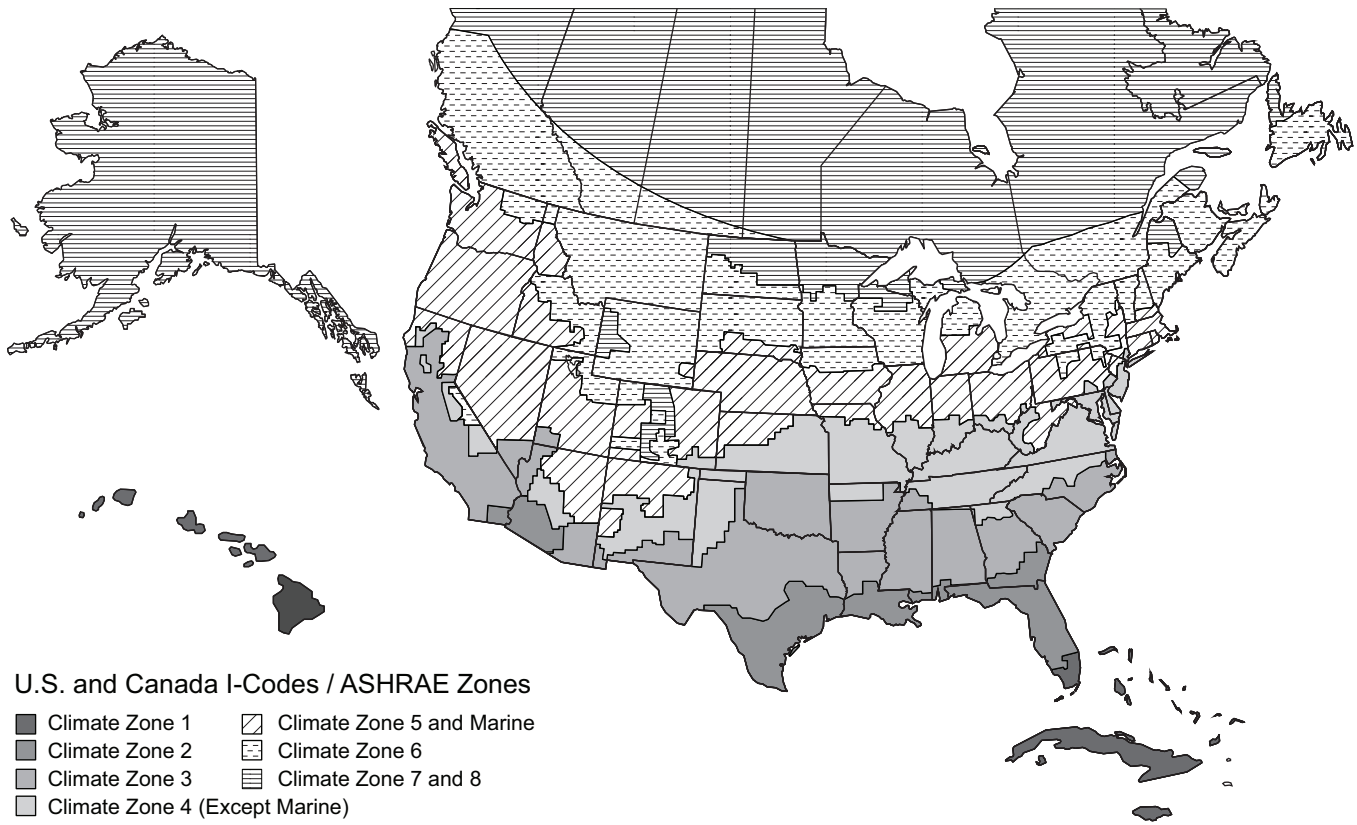

Fig. 81 — U.S. and Canada Climate Zones
- a. Refer to Fig. 81 for map of U.S. and Canada climate zones.